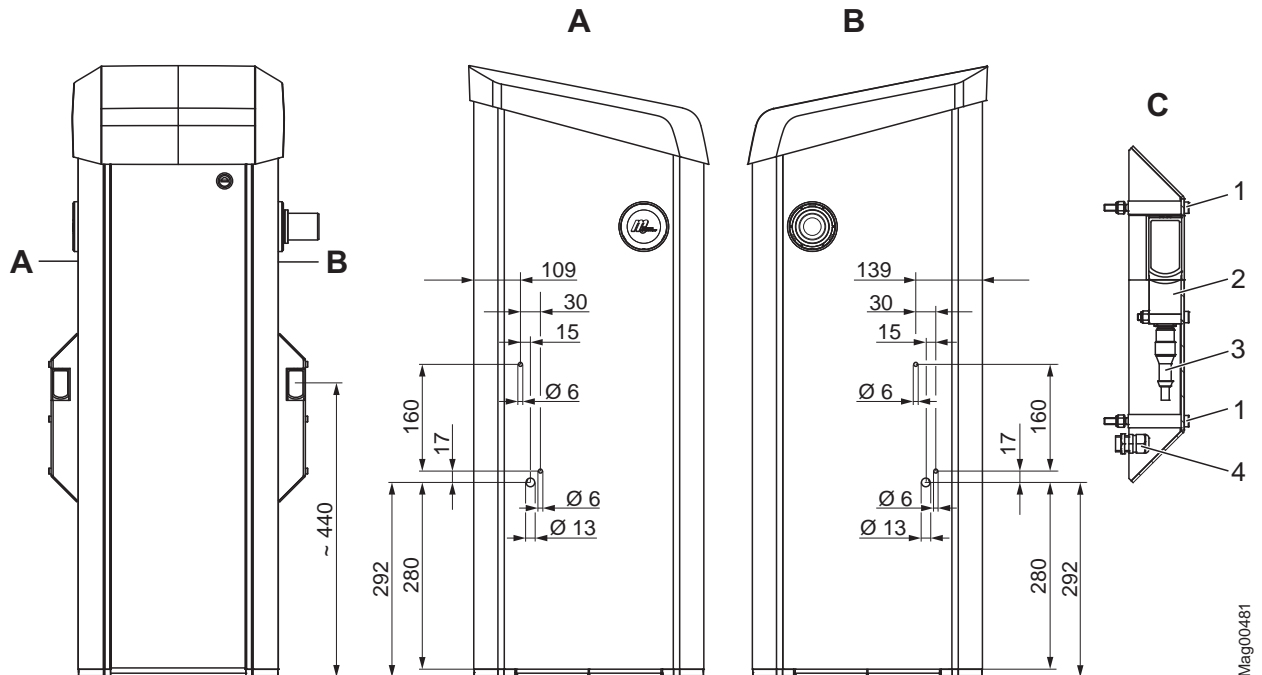

Fig. 24: Assemble of the transmitter's light barrier housing on the barrier housing (dimensions in mm)
1. Drill holes for the light barrier housing according to Fig. 24.